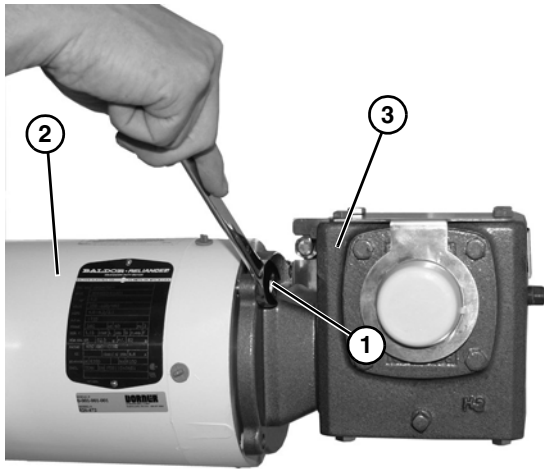

Figure 39
5. Remove four bolts (**Figure 39, item 1**) securing motor (**Figure 39, item 2**) to gear reducer (**Figure 39, item 3**).